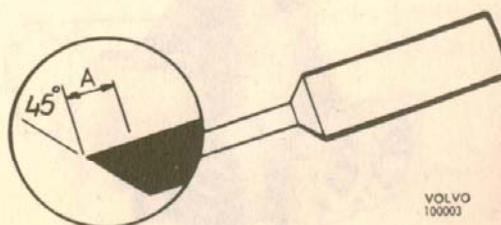

**Fig. 1-83. Tube for fitting the valves**
5. Press down the valves to the correct position. A tube as shown in the figure 1-83 can be used for this.